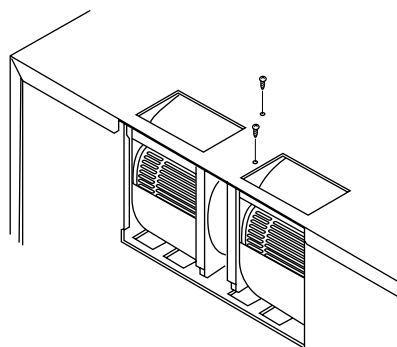

Figure 15
5. Tighten the two blower screws. See Figure 15.